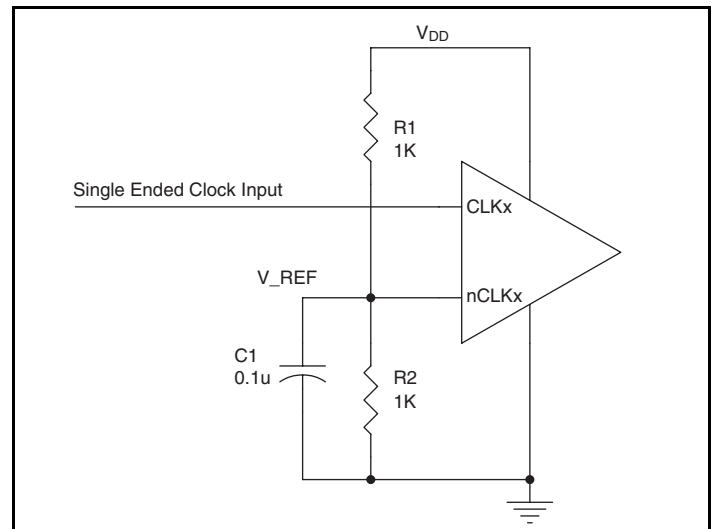

Figure 2. Single-Ended Signal Driving Differential Input
*Figure 2* shows how the differential input can be wired to accept single ended levels. The reference voltage  $V_{REF} = V_{DD}/2$  is generated by the bias resistors  $R1$ ,  $R2$  and  $C1$ . This bias circuit should be located as close as possible to the input pin. The ratio of  $R1$  and  $R2$  might need to be adjusted to position the  $V_{REF}$  in the center of the input voltage swing. For example, if the input clock swing is only  $2.5\text{V}$  and  $V_{DD} = 3.3\text{V}$ ,  $V_{REF}$  should be  $1.25\text{V}$  and  $R2/R1 = 0.609$ .